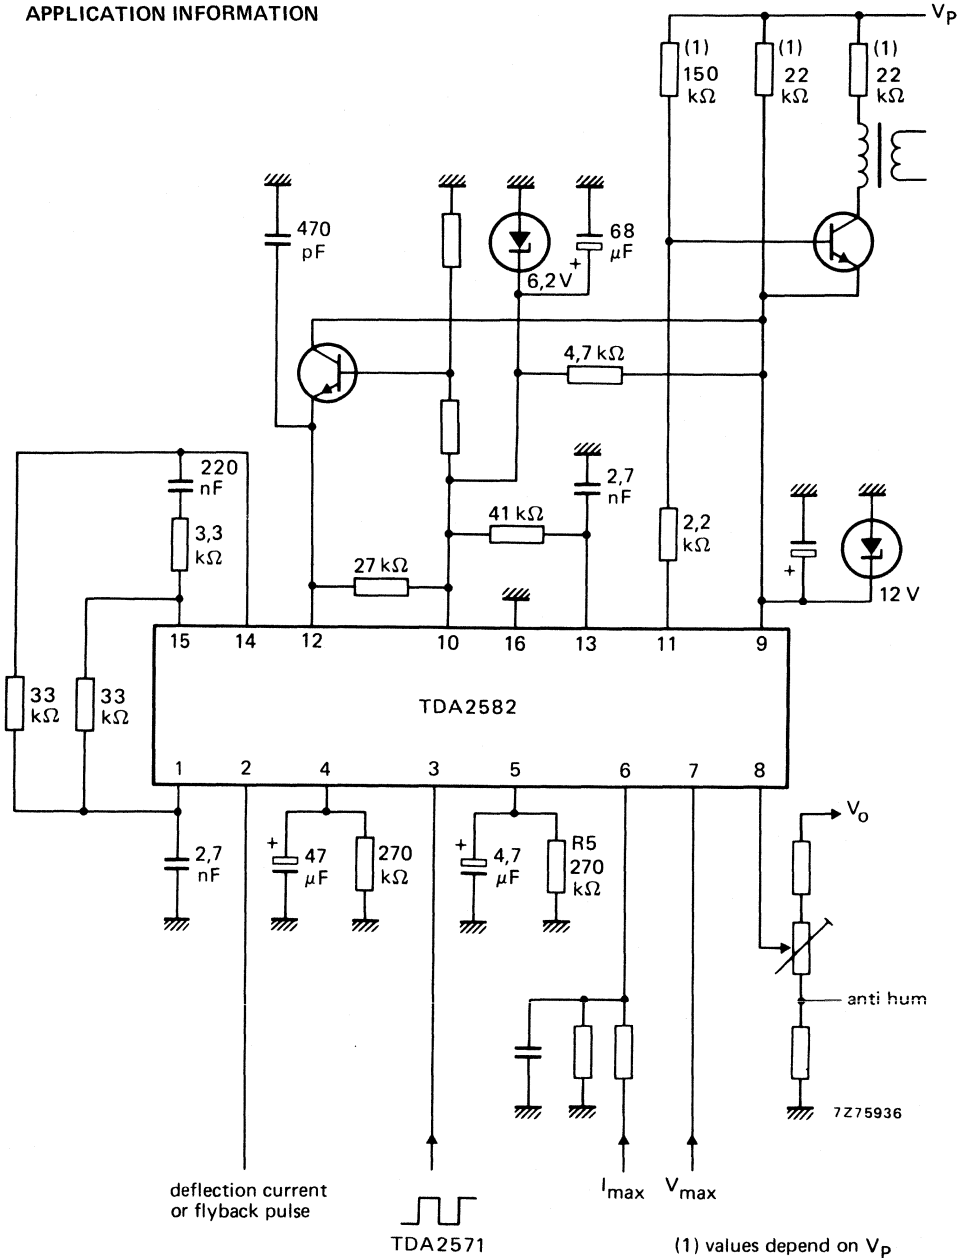

Fig. 4 Circuit diagram.
**CHARACTERISTICS** $V_{9-16} = 12 \text{ V}$ ;  $V_{10-16} = 6,1 \text{ V}$ ;  $T_{amb} = 25 \text{ °C}$ ; measured in Fig. 4
With a resistor of  $2 \times 33 \text{ k}\Omega$  and a capacitor of  $2,7 \text{ nF}$  the control steepness is  $0,55 \text{ V}/\mu\text{s}$  (Fig. 4).